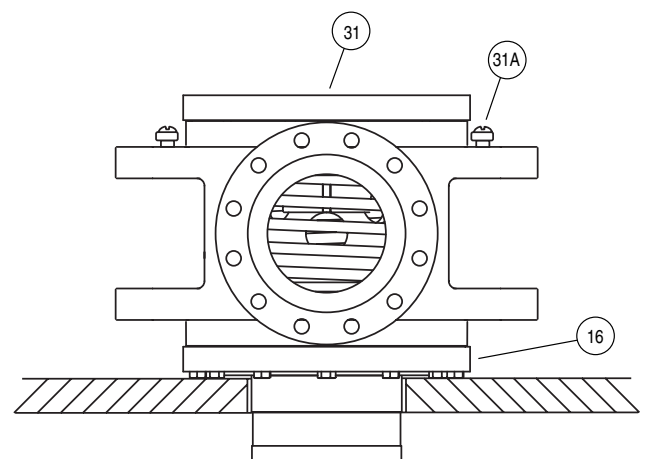

Figure 1
Position the rotary joint upright (see Figure 1) with nipple (4) extending down into a piece of pipe or through a hole in the workbench. In that position, the assembly will be resting on wear plate (16).